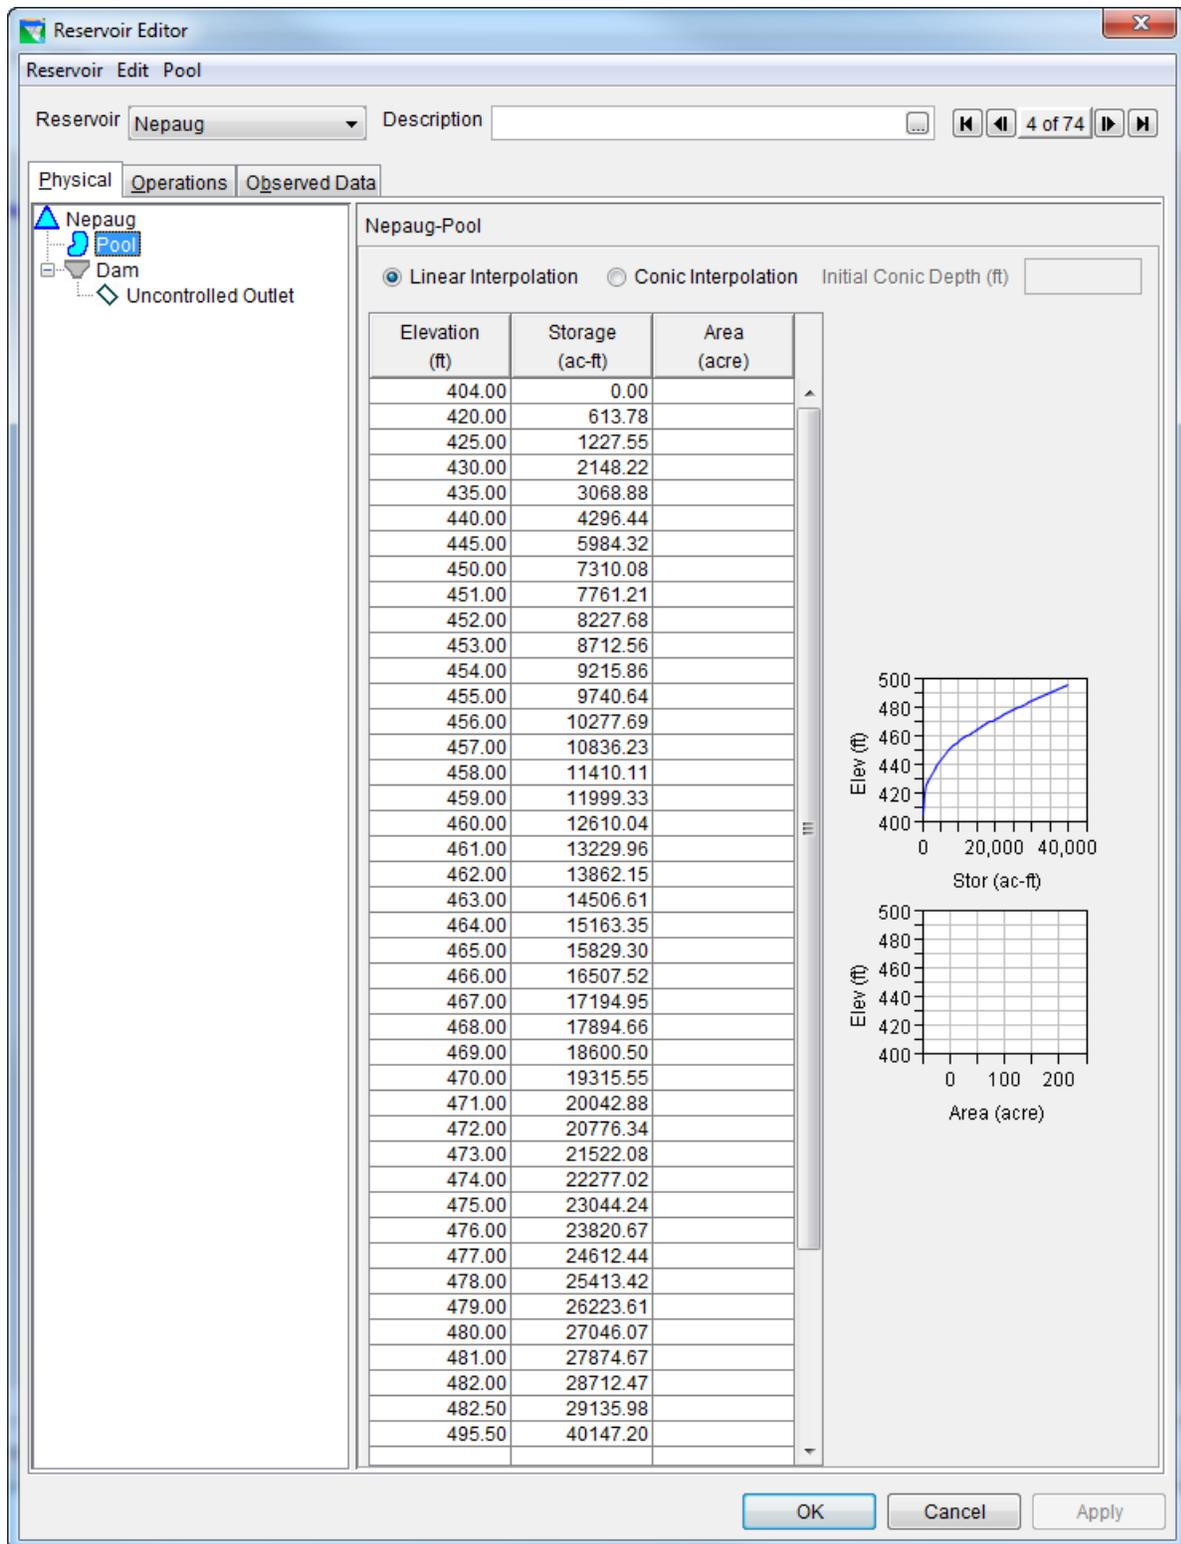
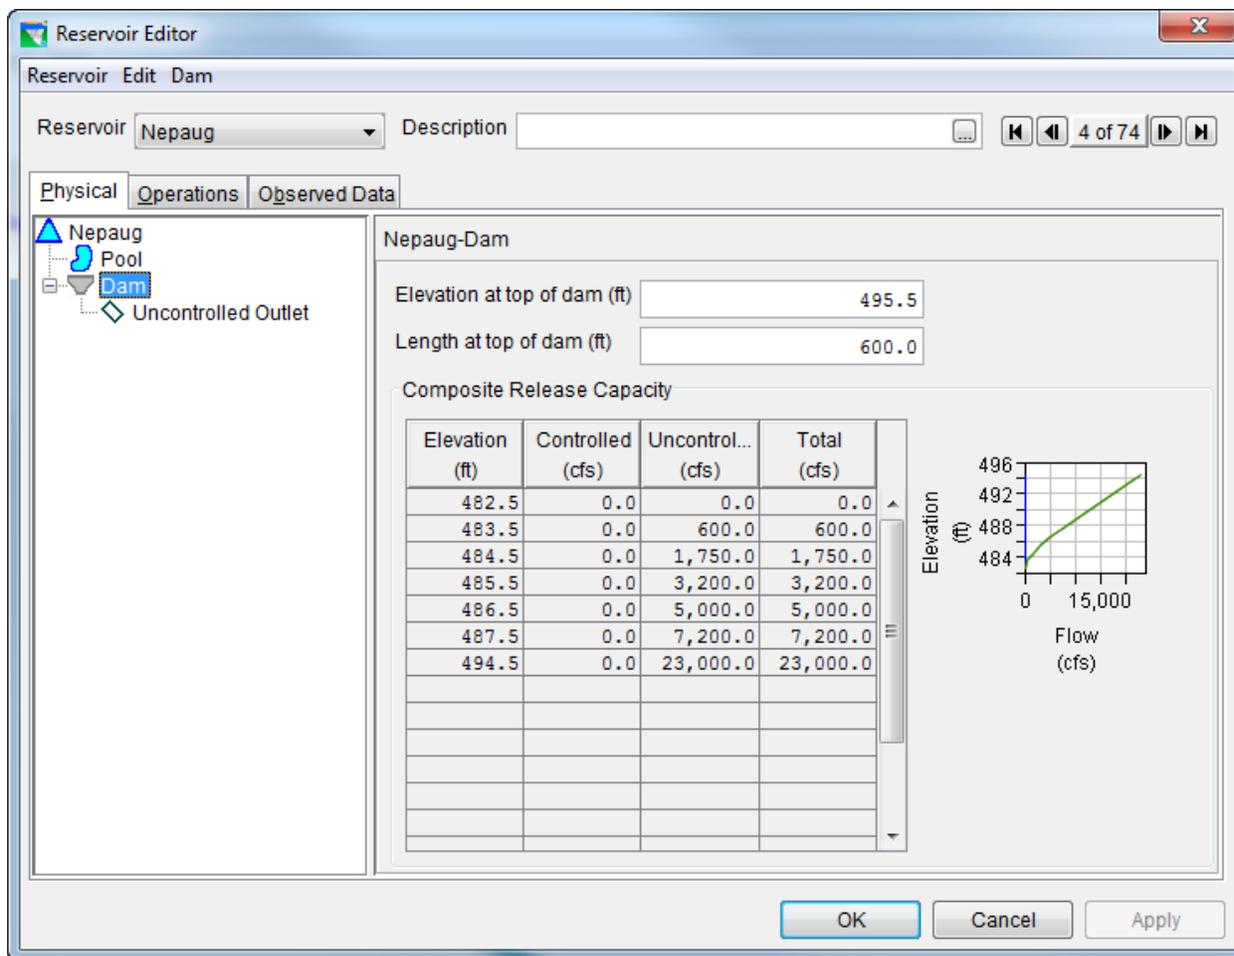

Figure 3: Reservoir Editor: Physical Tab -- Pool
Figure 4: Reservoir Editor: Physical Tab -- Dam
The physical characteristics of the reservoir are separated between the Pool and the Dam in the HEC-ResSim model. The elevation-storage-area defines the pool as shown in Figure 370. The dam consists of an uncontrolled outlet as shown in Figure 471.
The physical characteristics of the reservoir are separated between the Pool and the Dam in the HEC-ResSim model. The elevation-storage-area defines the pool as shown in Figure 372. The dam consists of five types of outlets: (1) controlled Dam Embankment, (2) controlled outlet, (3) power plant 1,(4) power plant 2, and (5) power plant 3 as shown in Figure 473.